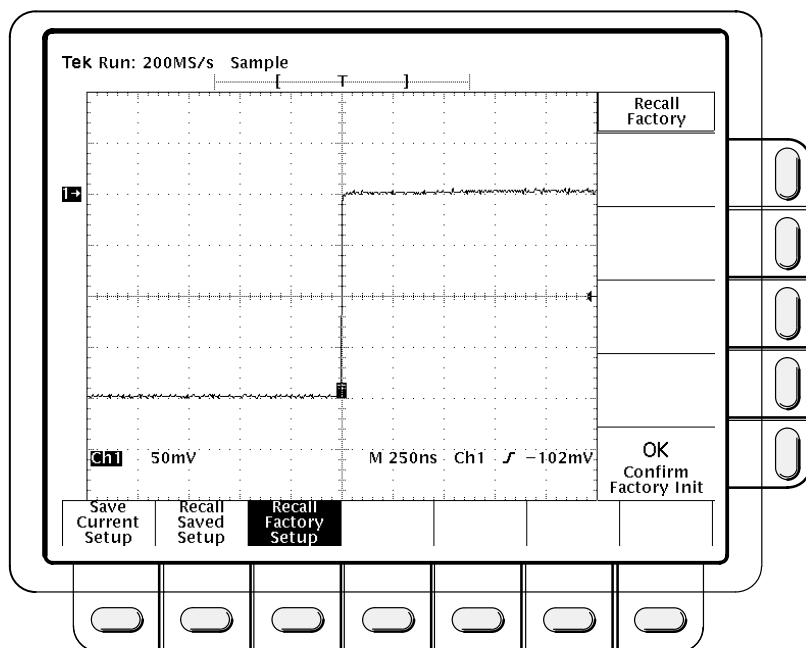

Figure 7-2: Timing Compensation Waveform
17. Press **AUTOSET**. Then adjust the vertical **POSITION** control to center the waveform on the screen so that the trigger arrow is at the center graticule, set the **VOLTS/DIV** to 50 mV, and set the **SEC/DIV** to 250 ns. This should result in a waveform similar to the one shown in Figure 7-2.